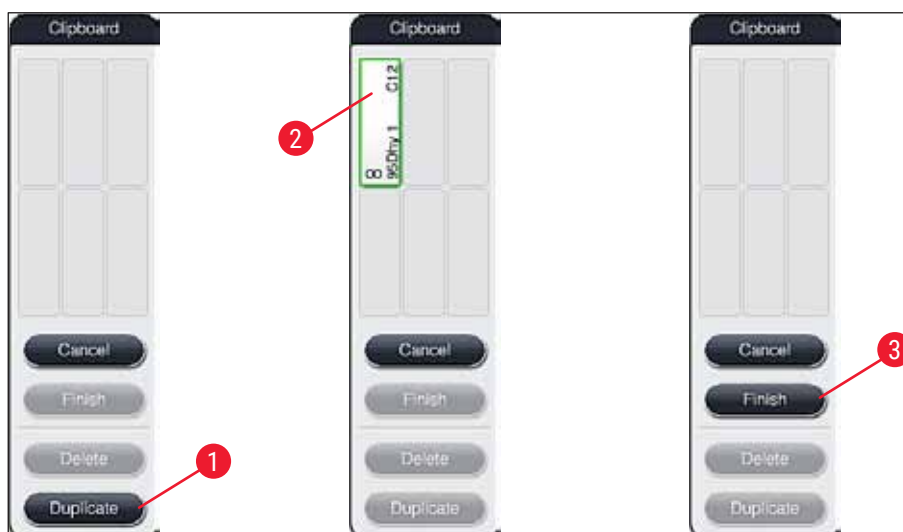

Fig. 53
2. Note the subsequent information message and confirm it with **OK**. A new **Clipboard** (→ "Fig. 53") window opens.